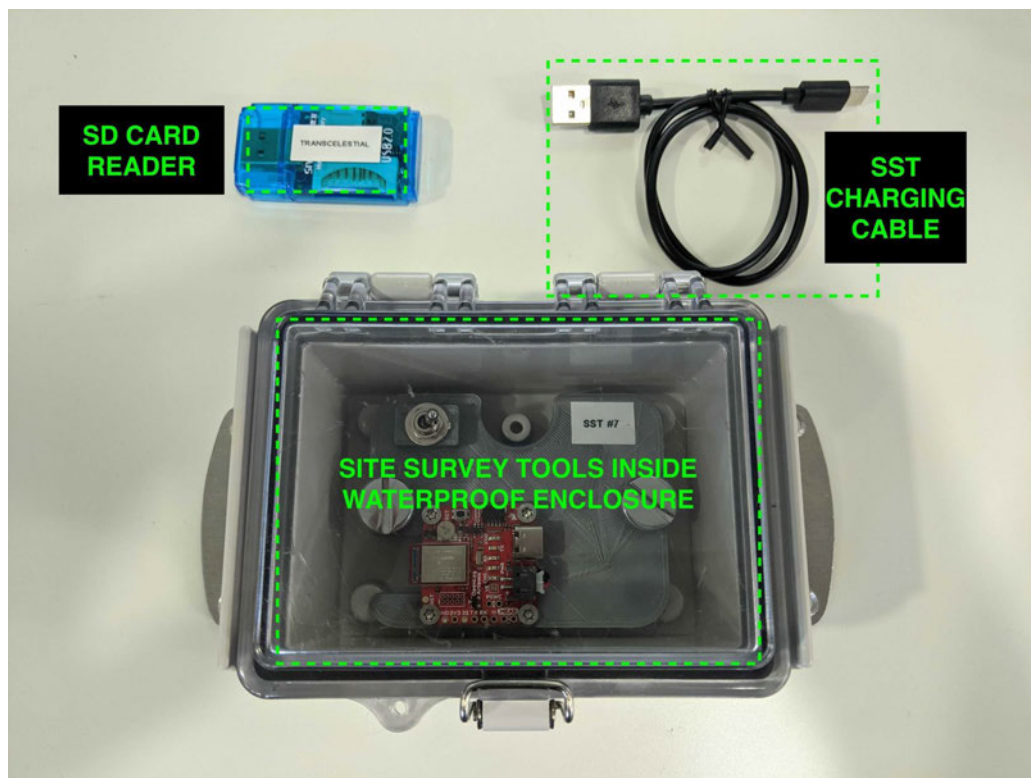

Figure 3: SST and Accessories
- a. The 'orange LED' will indicate that the charging has started (see Fig 3).